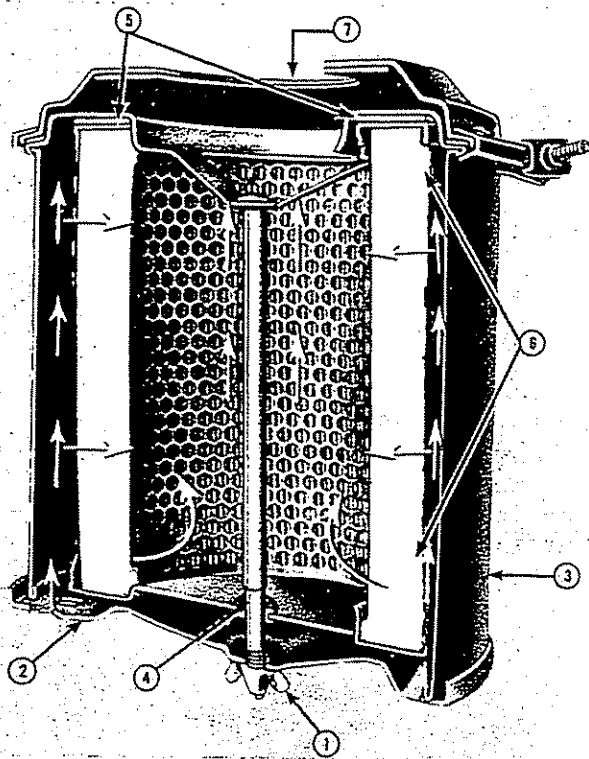

Fig. 2-9, (OM1028L). Air cleaner—dry type
1. Loosen the wing nut (1, Fig. 2-9) securing the bottom cover (2) to the cleaner housing (3). Remove the cover.